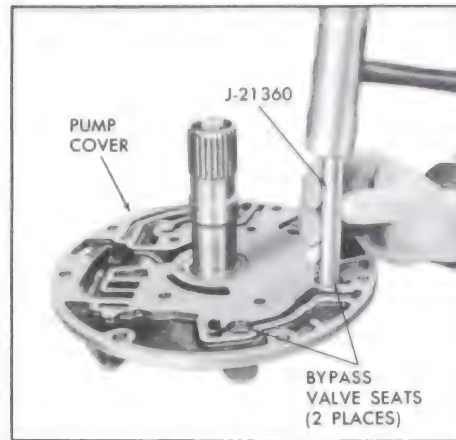

Figure 5-596
8. Install two (2) hook type oil seal rings.
9. If removed, install by-pass valve spring (large end first) valve and seat, using J-21360, drive the seat to the stop. See Figure 5-596.